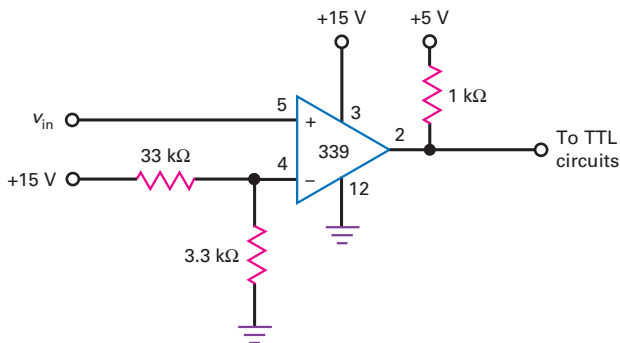

Figure 36-39
- 36.6 In Fig. 36-39, what is the output duty cycle if the input is a sine wave with a peak of 5 V?